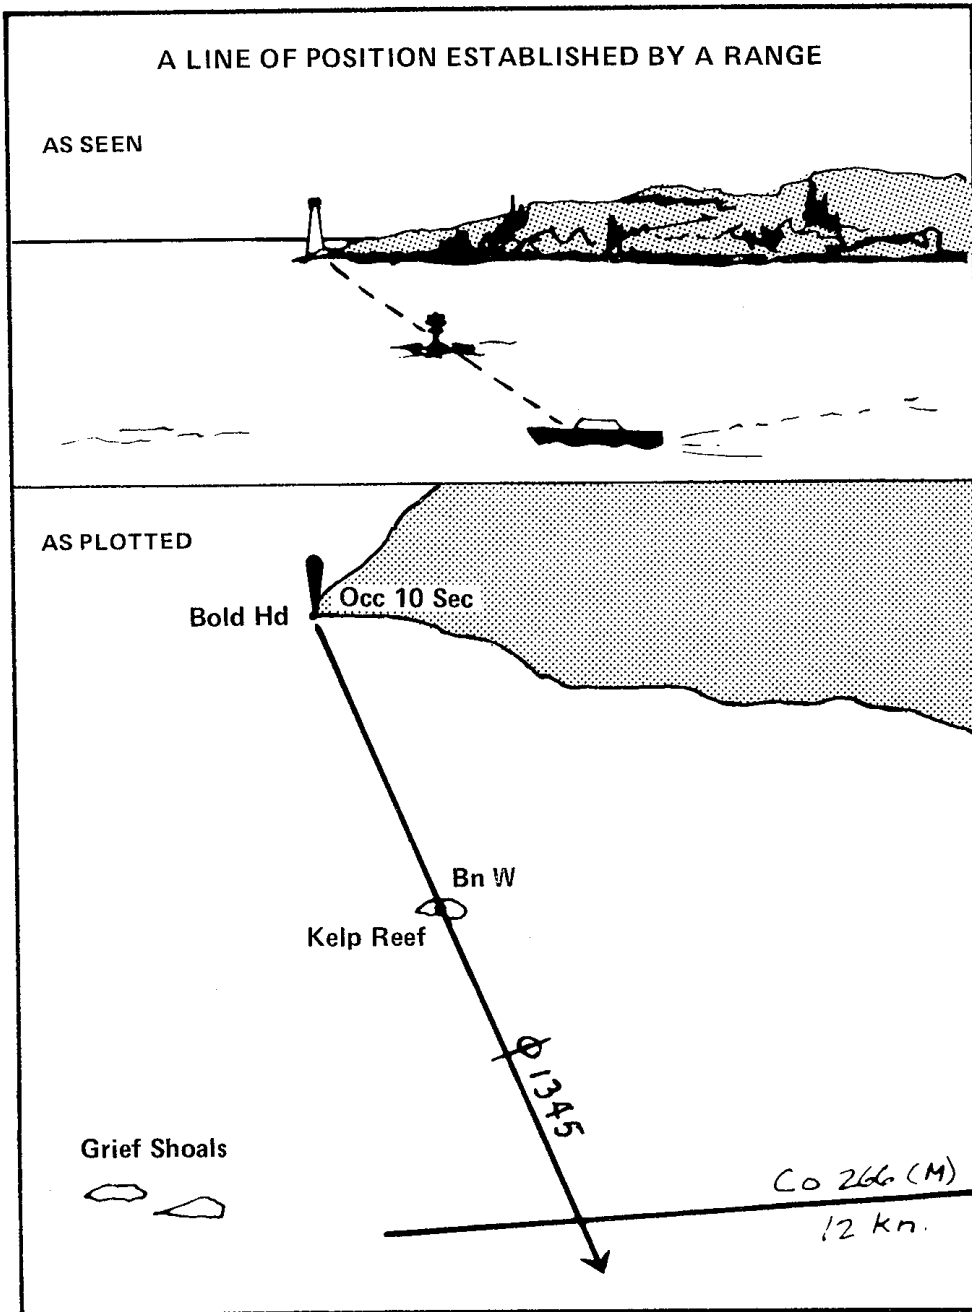

Figure 7-25 A Line of Position Established by a Range
transit. These words are synonymous in piloting and simply mean that **two objects are seen to be in line.** If, in Figure 7-25, the pilot observes the daymarker and the lighthouse to be in line he knows his vessel is on the range or transit established by a straight line drawn through the two aids. He draws the line, labels it as shown with a **Greek phi (Φ)** and the time, as say 1345. This establishes an LOP and he can say with certainty, now or later, "at 1345 my vessel was somewhere on the range Bold Head Light Φ Kelp Reef." Anyone can make such an observation, and using only a straight-edge and pencil can plot it. If the aids have been correctly identified a transit establishes a completely reliable LOP.
90. **Value of a Transit** — Observation of a transit establishes a **line** rather than a spot position; the boat may be anywhere on the line. This in itself, however, may be valuable information. If hazards lie to the west of the line in Figure 7-25, shown as "Grief Shoals," observation of the transit means proximity to the shoals and need for caution. Conversely, if the transit has not been crossed, on the westerly course illustrated, the shoals do not yet cause concern.